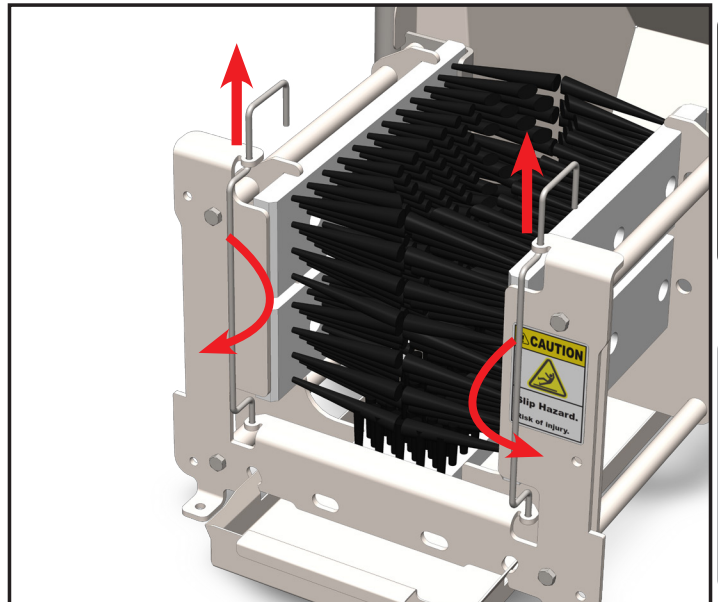

Fig. 5.2: Brush clip rotation for brush removal
1. To remove the brushes, pull up on the clip and twist them outward, as shown in [Figure 5.2].